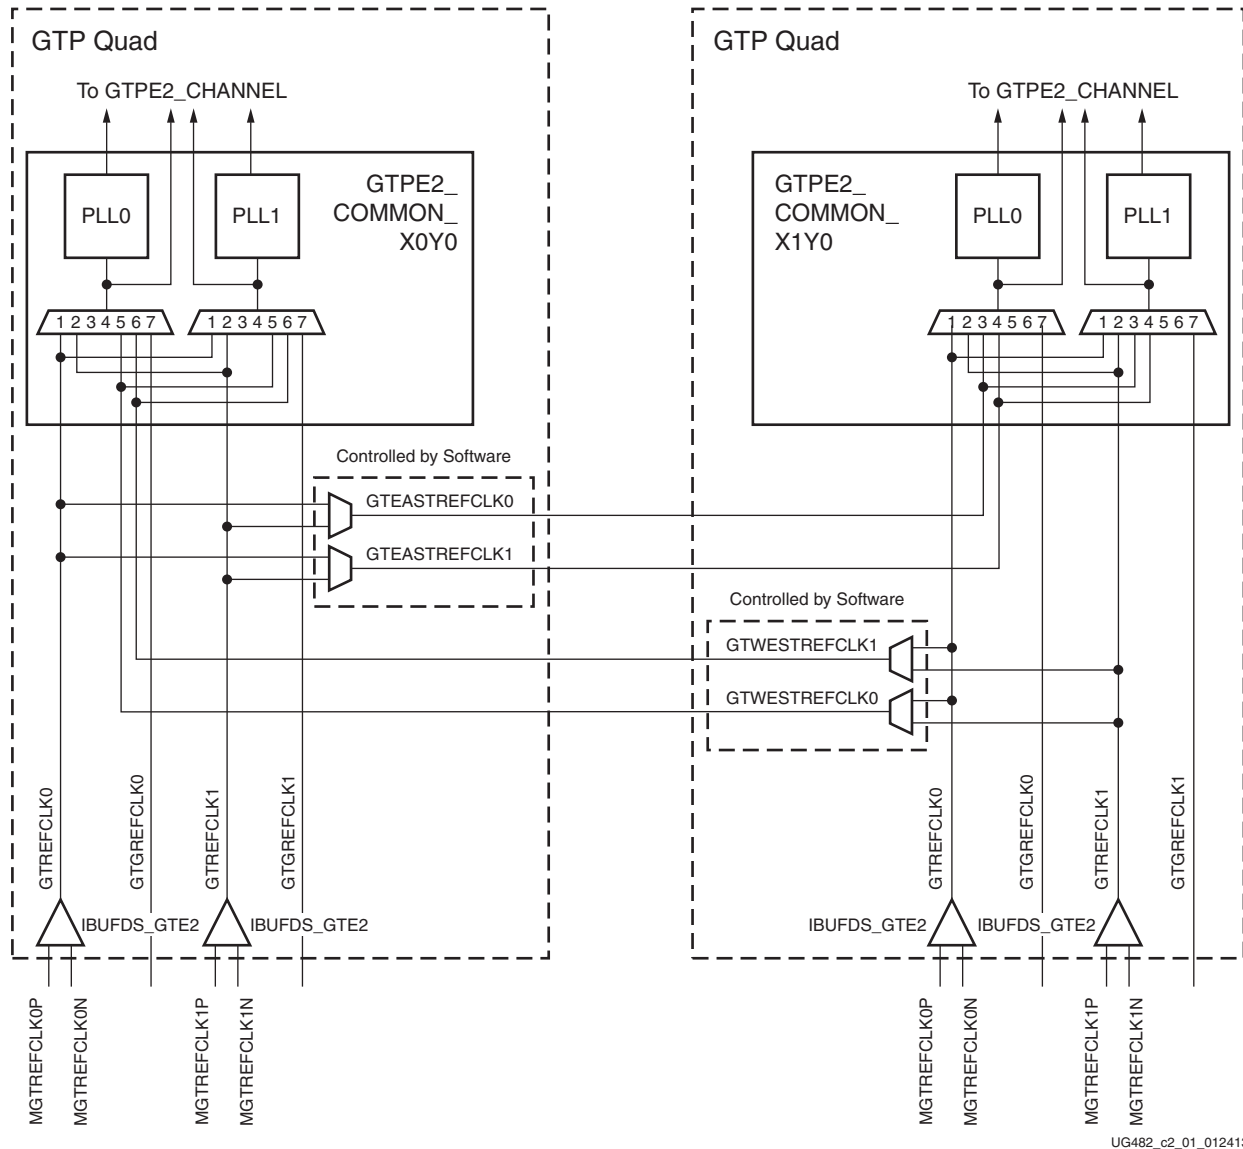
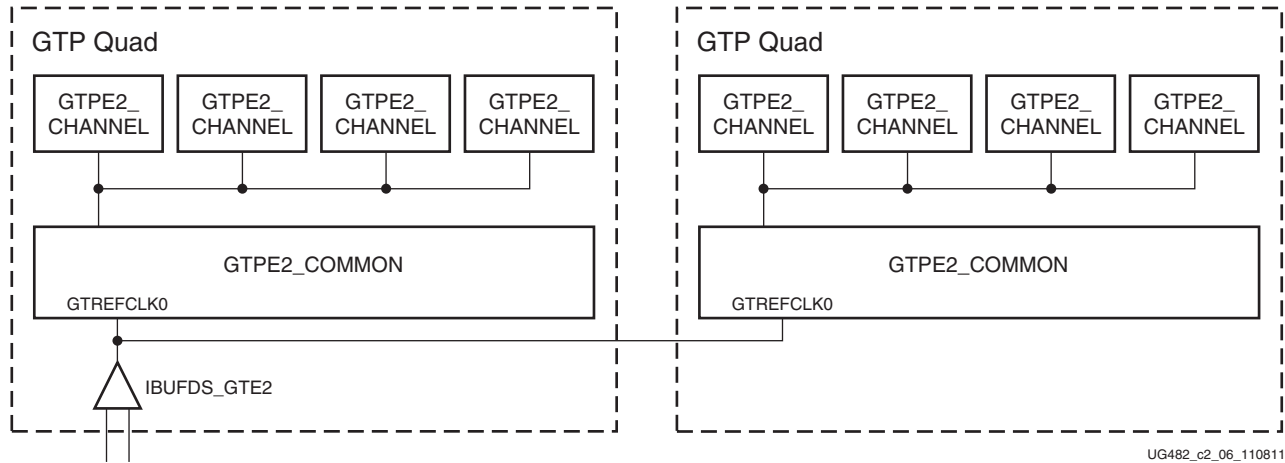

Figure 2-2: Conceptual View of GTP Transceiver Reference Clocking
Figure 2-6: Two GTP Quads with a Single Shared Reference Clock
Figure 2-2 shows the reference clock architecture with the GTPE2_COMMON primitive, two dedicated reference clock pin pairs, and dedicated east or west reference clock routing. Each GTPE2_COMMON in a Quad has four clock inputs available:
Figure 2-6 shows a single reference clock connected to two GTP Quads. The user connects the IBUFDS_GTE2 output (O) to the GTREFCLK0 input port of both GTPE2_COMMON primitive instances. Such a scenario is only possible in the largest Artix-7 device (XC7A200T-FFG1156) that contains east and west GTP Quads adjacent to each other.
When required, as is the case for the design in Figure 2-6, the Xilinx implementation tools make the necessary adjustments to the east/west routing shown in Figure 2-2, page 26, as well as any necessary pin swapping to the GTPE2_COMMON clock inputs to route the reference clocks between two Quads.